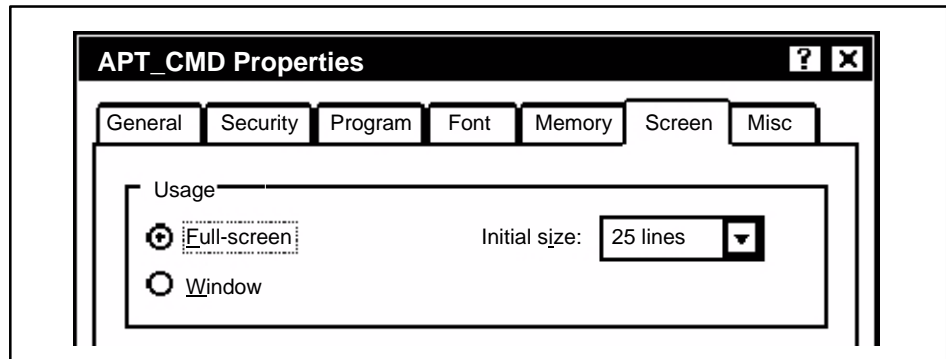

Figure E-4 APT_CMD Properties: Screen
- Click the **Screen** tab (Figure E-4), and set the “Initial size” field to 25 lines.